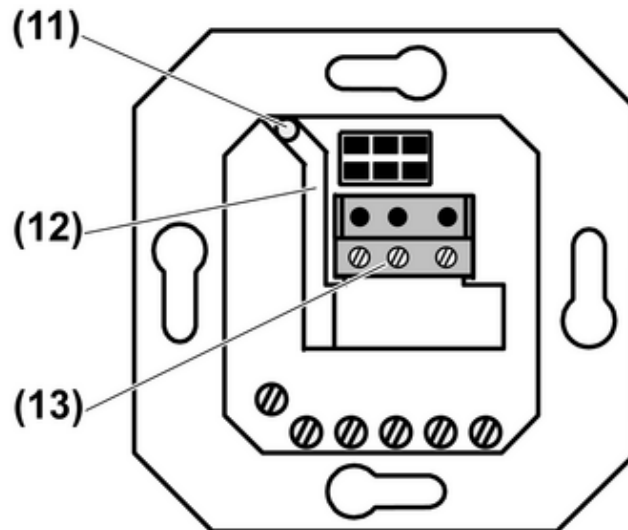
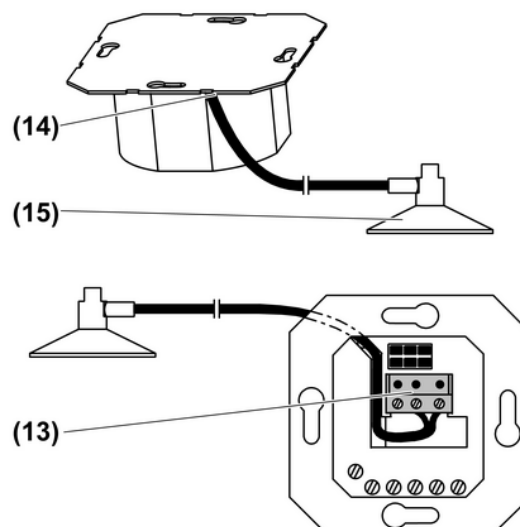
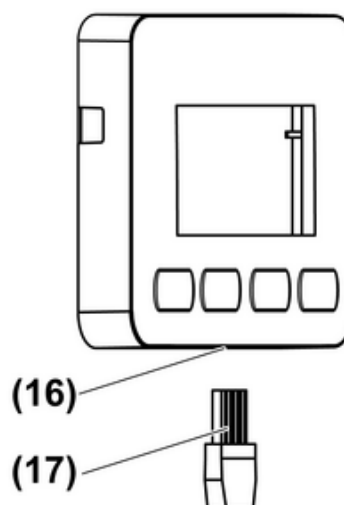

Figure 8: In-wall routing of the sensor cable
Figure 9: Surface-mounted routing of the sensor cable
Figure 11: Sun sensor on the cover
- For a shutter cover with sensor evaluation, install the sensor cable in accordance with (Figure 8) or (Figure 9) (Installing the sensor cable).
The sensor cable can be installed in three different ways. In-wall routing (Figure 8), surface-mounted routing (Figure 9), and with appropriate covers plugging the sensor cable into the cover (Figure 11).
- i** For in-wall routing of the sensor cable, use only shielded cables. Recommendation: J-Y (ST)Y 2x2x0.6 mm.
- Insert the cable through the hole (11) in the insert and route it through the cable duct (12) to the terminal block (13) (Figure 8).
- For surface-mounted routing of the indoor sensor (15), cut off the plug.
- Route the sensor cable behind the supporting plate (14) and through the cable duct to the connecting terminal (13) (Figure 9).
- Insert plug (17) into the socket of the insert (16) (Figure 11).